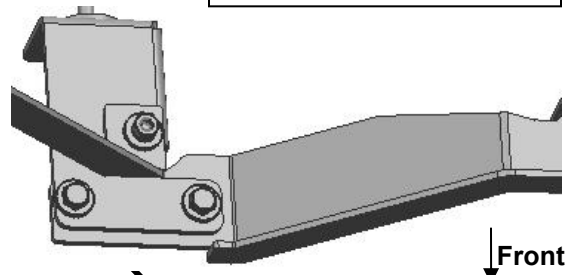

Fig 4
7. Attach the opposite end of the Support Bracket to the mounting hole on the side of the front Upper Mounting Bracket using the included (1) 10mm x 30mm Hex Bolt, (2) 10mm Flat Washer, (1) 10mm Lock Washer and (1) 10mm Hex Nut, **(Figure 4)**. Do not tighten hardware at this time.
8. Select the passenger Front Lower Bracket and attach the bracket to the passenger Front Upper Bracket with (2) 10mmx30 Hex bolt, (4) 10mm Flat Washer, (2) 10mm Lock Washer and (2) 10mm Hex Nut, **(Figure 4)**. Snug but do not tighten hardware at this time.